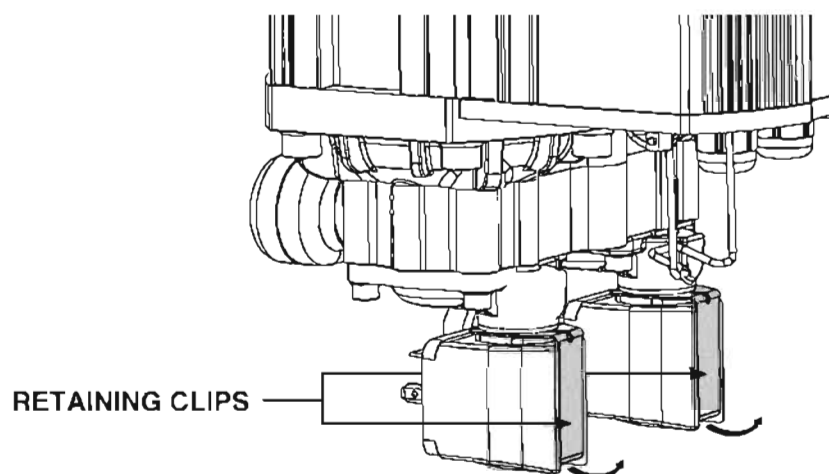

Figure 2.
3. Remove the solenoid valve by unclipping the retaining clips and sliding the solenoids down and free from the valve stems. (See Figures 2 & 3)